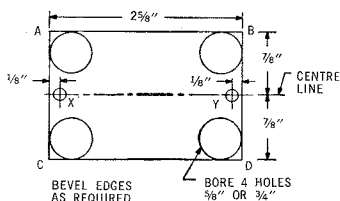

Fig. 5 — Method of Preparing Recess Hole for 391A Jack
5.04 The 391A jack is installed in baseboard or wall panel, as shown in Fig. 5 and as follows:
3. Measure from center of holes and draw rectangle as shown in Fig. 5.